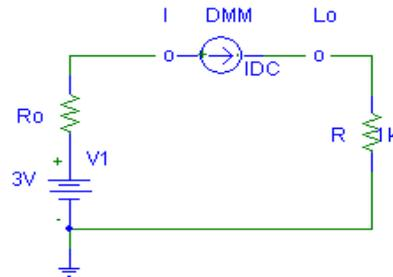

Figure 8: Principle of DC current measurement.
An ammeter senses the current flowing through its input terminals. The ammeter (or DMM) must be connected in ***series*** with the circuit such the same current flows through the DMM and the test circuit. The principle of the current measurement is quite simple. The ammeter has a small resistance at its input terminals and *measures the voltage* that the test current generates over this resistance (Figure 8).
2. Enable the outputs by pressing the **Output On/OFF** key (see Figure 8) The CV and +6V annunciators is on, +6V is selected. The display is in the *meter* mode and shows the actual output voltage and current.